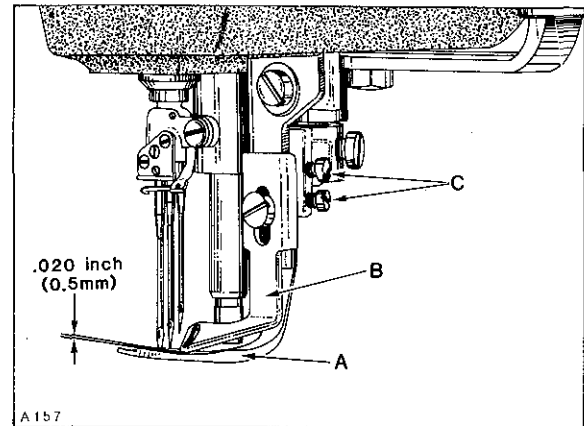

Fig. 27
**IMPORTANT:** Care must be taken to maintain the 1/16 inch (1.6mm) dimension between the left rear edge of SLOT in stationary spreader thread guide to centerline of right needle, while tightening screw (A) securely.
Spreader (A, Fig. 27) should be positioned so its upper surface clears the lowest edge of stationary guide (B) by .020 inch (0.5mm) and the rear side of spreader blade should clear the shank of left needle by 1/64 to 1/32 inch (0.4 to 0.8mm) throughout its arc of travel. Adjustment can be made by loosening screws (C), reposition as required and retighten screws securely.